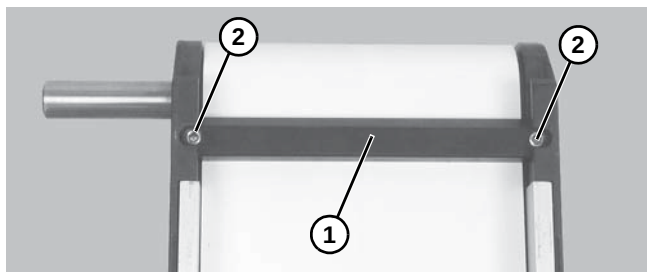

Figure 15
1. If equipped, remove bottom wipers (Figure 15, item 1): Remove fastening screws (Figure 15, item 2) then remove wiper.